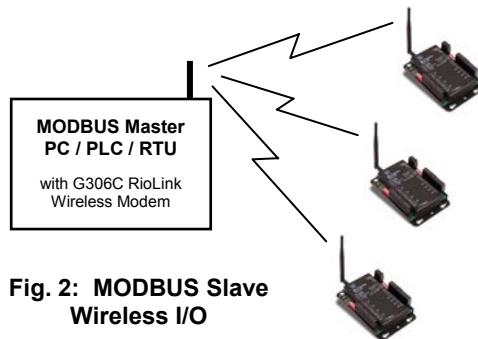

Fig. 2: MODBUS Slave Wireless I/O
- Use the RioExpress-SC as a **MODBUS Slave Wireless I/O** with a Controller of your choice (PLC, RTU, PC & etc.) as Master. See Fig. 2.